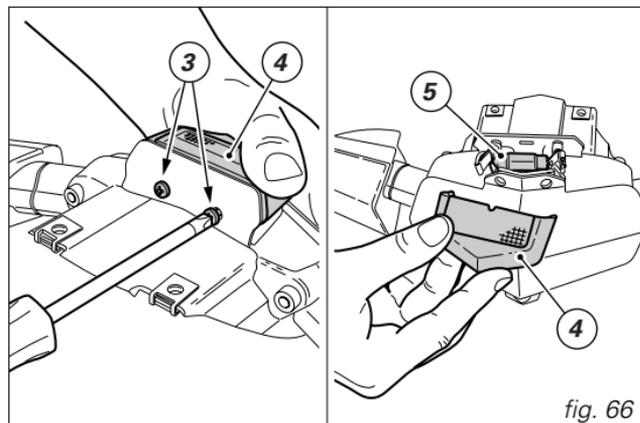

fig. 66
Slide out the body and transparent cover and change bulb (5) for number plate light (fig. 66).